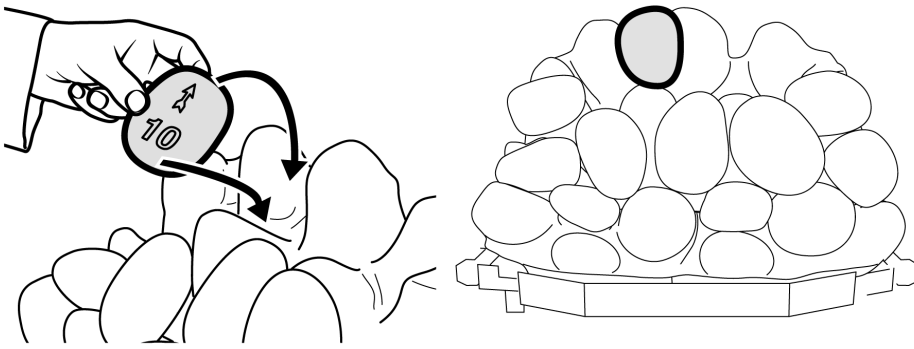

Figure 29. Third row "Pebble 10"
20. Hold pebble '10' upright with the arrow pointing to the top. Locate pebble '10' as shown in figure 29.